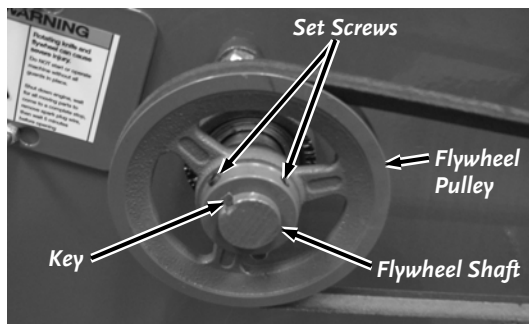

Figure 46a: 16.5 Model
- Loosen the Flywheel Pulley Set Screws a few turns using a 1/8" Allen Wrench (**Figure 46a**).